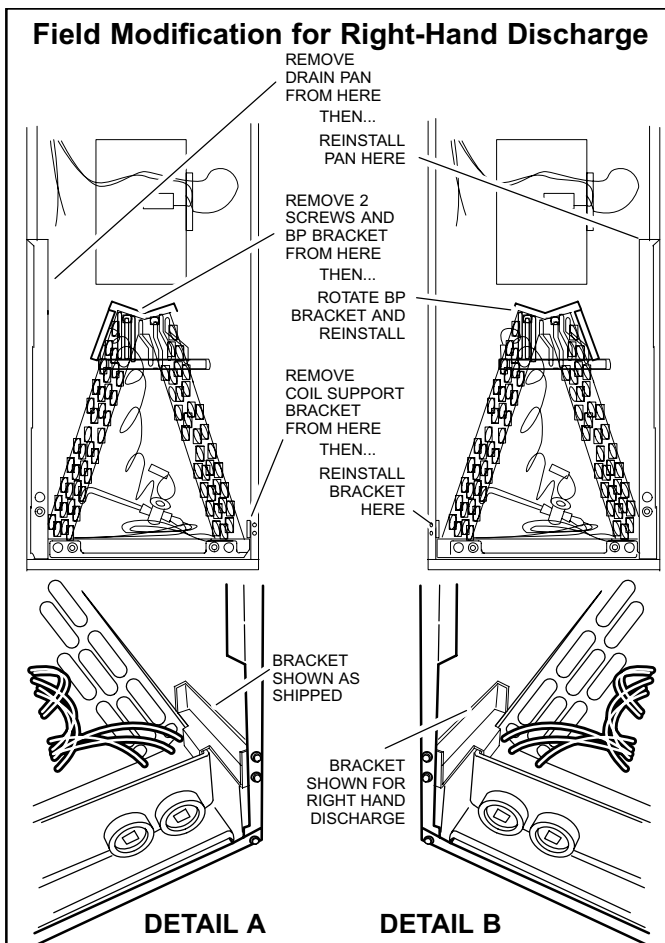

Figure 6
2. Remove the coil support bracket (see detail A, figure 6).
4. Remove two screws and blowoff prevention bracket ("BP BRACKET" in figure 6). Rotate the bracket 180° and reinstall using the same screws.
7. Install the coil support bracket on the opposite side of the air handler (detail B, figure 6)..